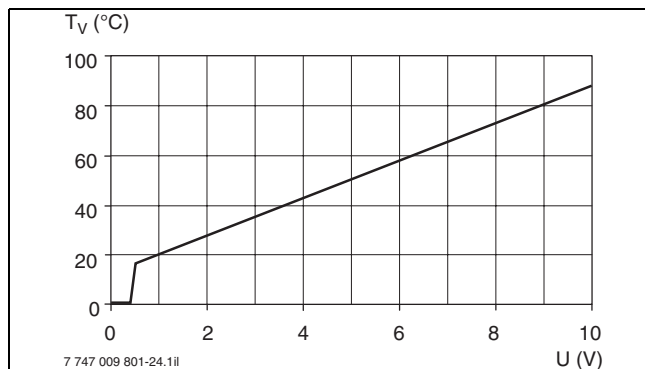

Fig. 48 Curve, EM10 fault message module (set values)
A 0–10 V DC signal enables control over the flow temperature or the output (→ Fig. 48).
- Switching the boiler with an external 0-10 V DC signal. A flow temperature is specified to the boiler via the 0-10 V DC signal (→ Fig. 48).